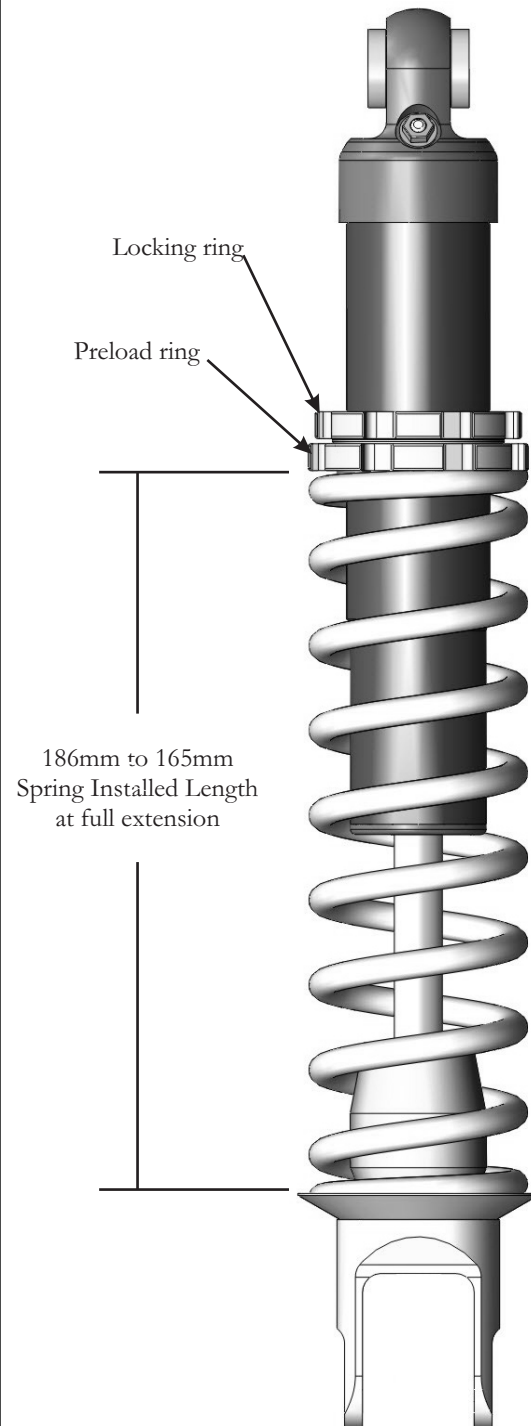

Figure 7
4. Spring pre-load adjustments are made with the supplied preload adjusting wrench by first loosening the upper locking ring, then adjusting the lower preload ring (figure 7). Once the proper preload has been achieved, re-tighten the locking ring against the adjusting ring. With the shock fully extended, the spring installed length must never be adjusted to a length longer than 186mm (7.32") or shorter than 165mm (6.50").